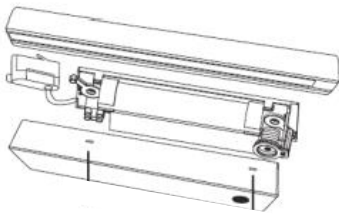

Fig. 4
- Refasten the cover over the fitting ensuring the snap clips engage with the cover slots (see Fig. 4)